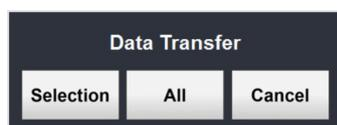

Fig. 3-22
4. Select the button “Data transfer” to open the transfer option window (Fig. 3-22).